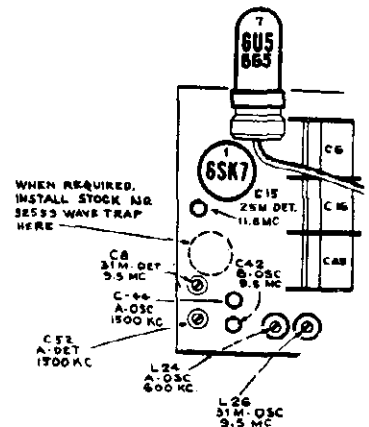

Fig. 3. In case of interference, a wave trap can be installed as shown in the RCA model QU61.
3. Should interference from a powerful near-by station require the use of a wave trap, install RCA Stock No. 32553 trap as illustrated in Fig. 3. The complete chassis view is found on page 15-58 of *Rider's Volume XV*. Connect the coil lug to the receiver antenna connection; ground connection is made to the chassis through coil mounting foot. Adjust the capacitor mounted on top of the coil for minimum signal from the interfering station.